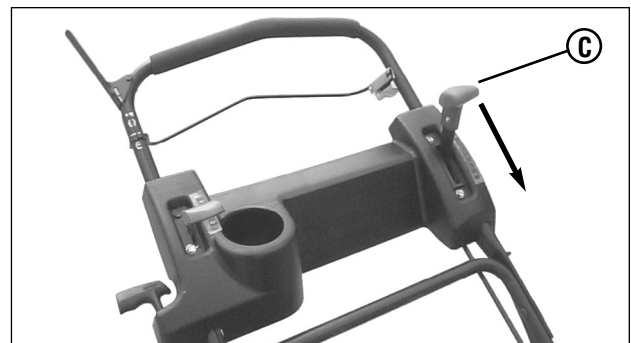

Figure 27: The ground speed control
1. Move the ground speed control (**A, Figure 27**) into the 'fast' position.